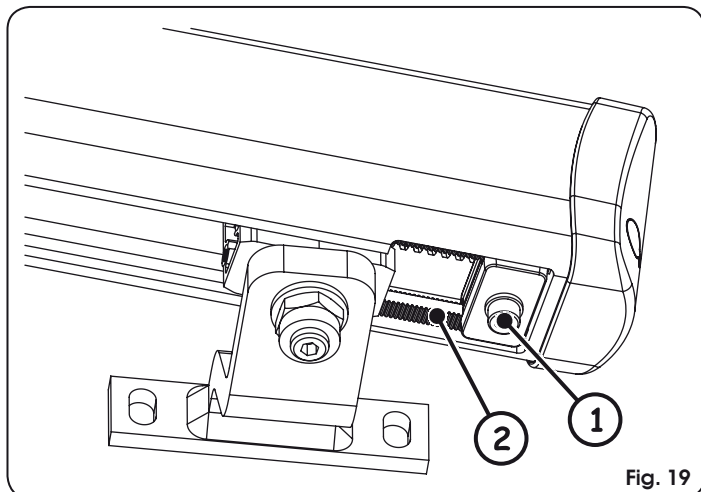

Fig. 19
3. Loosen the fastening screw, Fig. 19 ref. ①. Do not remove the screw.
**The mechanical stop works coupled to a toothed sector, Fig. 19 ref. ②. If there are any troubles during the movement, make sure that the coupling is free. DO NOT FORCE.**